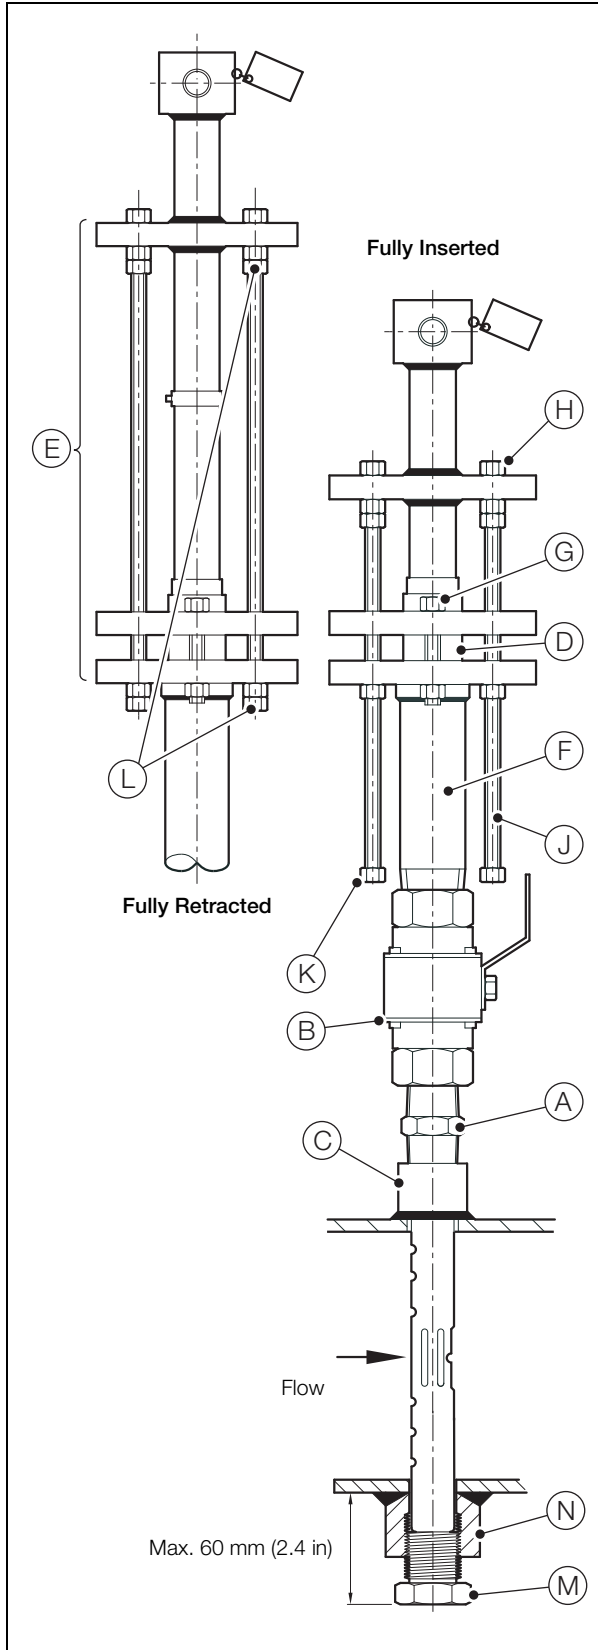

Fig. 2.13 Installation of Threaded Model FPD350.H7.E2
8. Referring to Fig. 2.13:
- a. Apply suitable sealant to the close nipple (A) and isolation valve (B) and fit them to the threaded fitting (C). Tighten securely.
- b. Ensure 6 packing rings are located correctly inside packing gland (D).
- c. Ensure the drawbolt (or optional geared) retraction assembly (E) is in the fully retracted position.
- d. Fit pressure chamber (F), complete with packing gland (D) and retraction assembly (E), to isolation valve (B), using appropriate sealants where necessary.
- e. Insert the Torbar into packing gland (D).